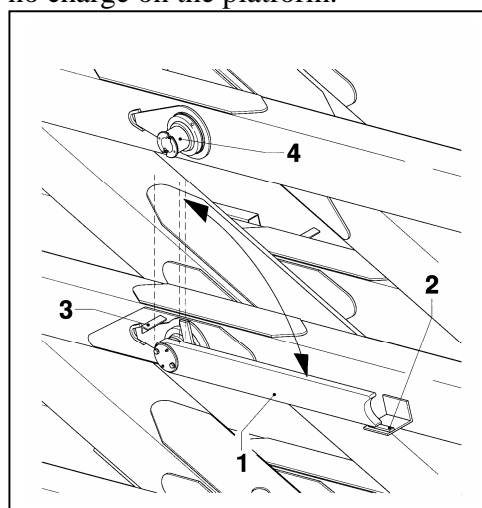

Fig. 22 Safety prop
- All lubrication points should be greased according to the schedule (Fig. 22).